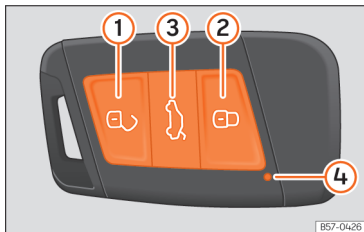

Fig. 43 Vehicle key
When a button is pressed briefly on the vehicle key, the control lamp (4) »» Fig. 43 flashes once briefly, but if pressed for a long period of time, it will flash several times, for example, when using the comfort opening.